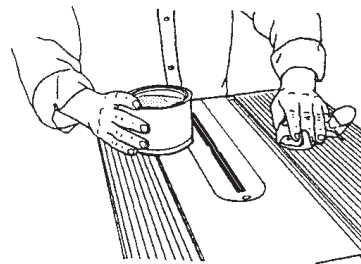

Figure C-7
- the worktable (shown in Figure C-7) and extension table surfaces